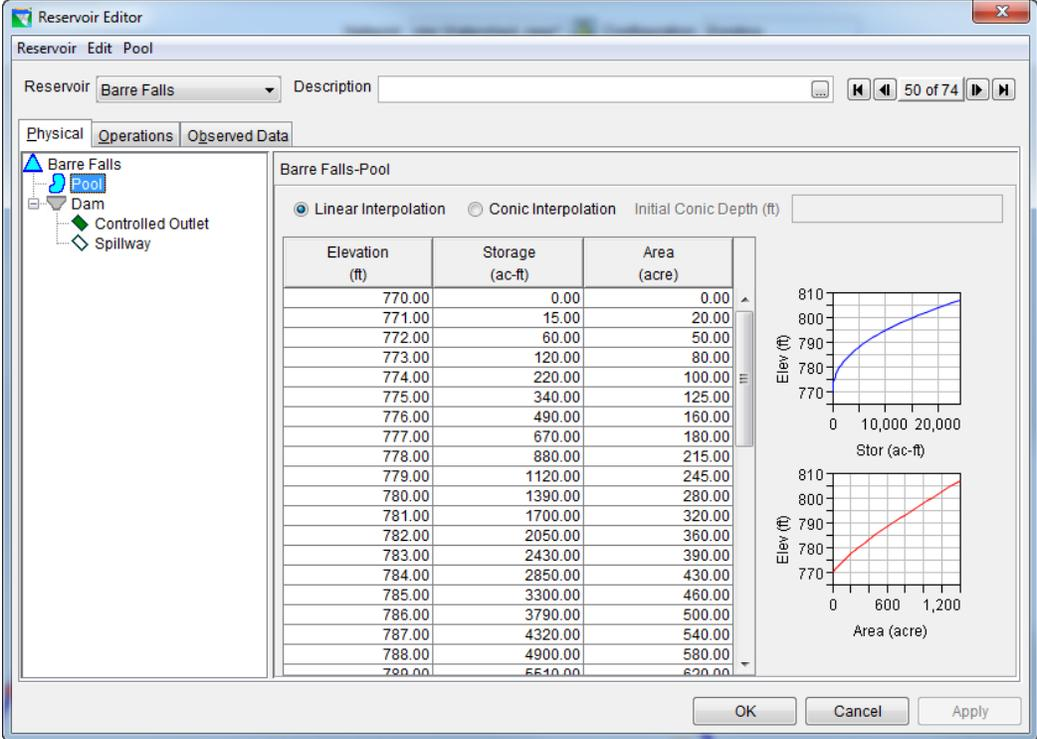
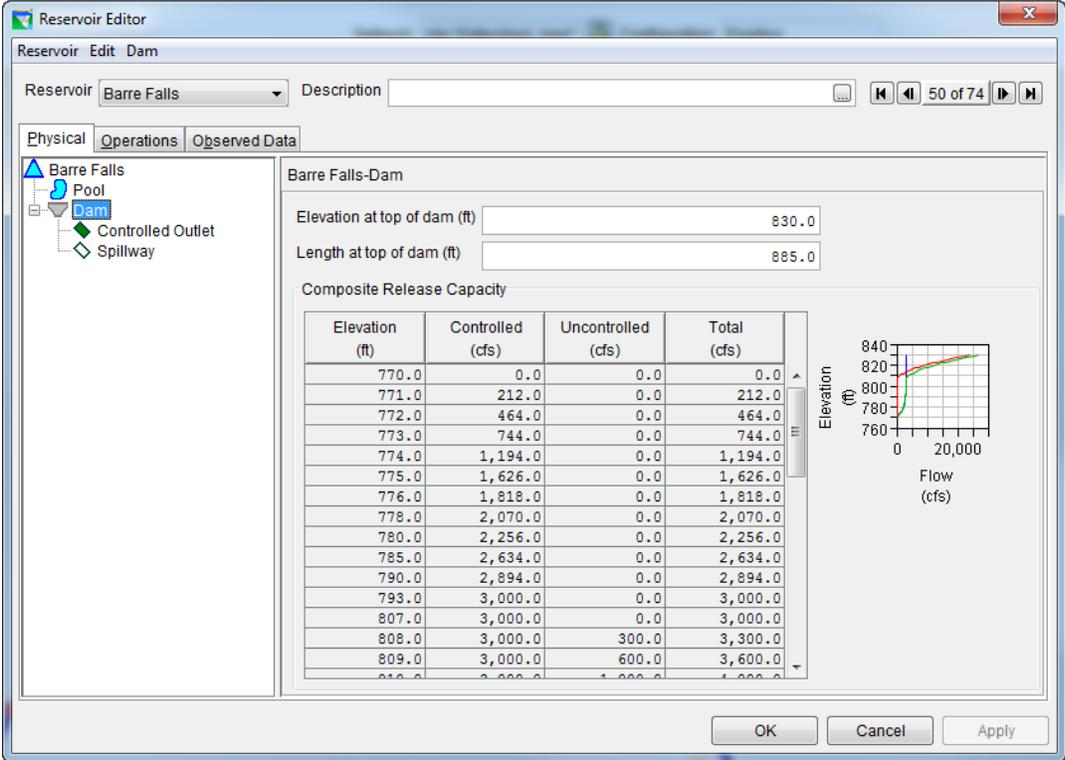

Figure 3: Reservoir Editor: Physical Tab -- Pool
Figure 4: Reservoir Editor: Physical Tab -- Dam
The physical characteristics of the reservoir are separated between the Pool and the Dam in the HEC-ResSim model. The elevation-storage-area defines the pool as shown in Figure 3. The dam consists of two types of outlets: (1) controlled Outlet, and (2) uncontrolled spillway, as shown in Figure 4. All physical and operations data were provided by US Army Corps New England District, through both a previously created ResSim model and the Reservoir Regulation Team website4.